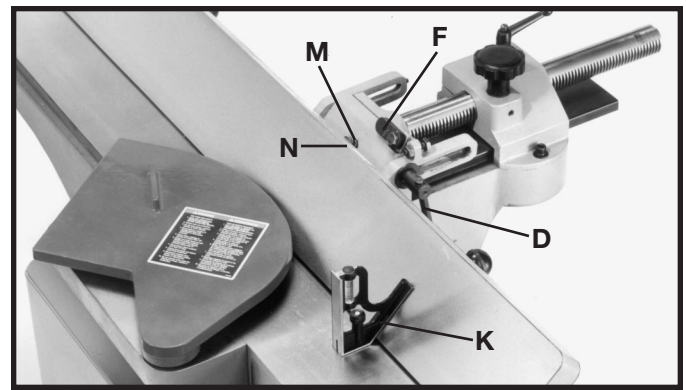

Fig. 54
4. Rotate flip stop (F) Fig. 54, and tilt the fence outward as far as it will go and tighten locking handle (D). Place a square (K) on the table and against the fence to check if the fence is 45 degrees outward to the table.
5. If an adjustment to the positive stop is necessary, loosen locking handle (D) Fig. 54, and locknut (M). Rotate adjustment screw (N) until you are certain the fence is 45 degrees outward to the table. Tighten locknut (M).